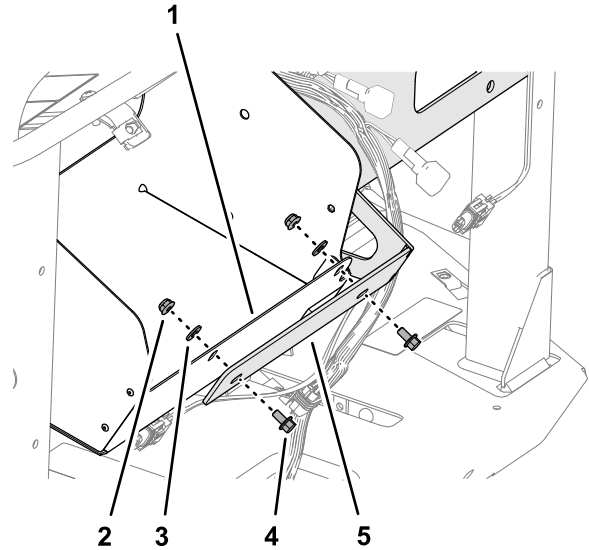

Figure 75
2. Align the holes in the manifold mount with the slots in the flange of the storage compartment (Figure 75).
3. Loosely assemble the manifold mount to the flange (Figure 75) with 2 flange-head capscrews (1/4 x 1/2 inch), 2 washers (1/4 inch), and 2 flange locknuts (1/4 inch).